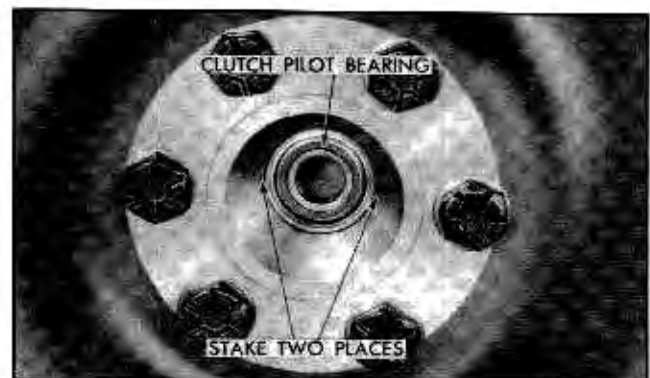

Fig. 6-35 Staking to Retain Clutch Pilot Bearing
3. If clutch pilot bearing is to be replaced, use cold chisel to remove staking in end of crankshaft which keeps bearing in place when transmission is removed (Fig. 6-35). Remove clutch pilot bearing from hole in crankshaft.
If bearing is a snug fit in crankshaft, use puller J-4383 and Slide Hammer J-2619-A or J-942 to remove bearing. When installing new bearing see that hole in crankshaft is thoroughly clean. Install new bearing with shielded side toward transmission. Start bearing into hole and tap into place by using Clutch Pilot Bearing Installer J-5736 against outer race. Stake slightly as shown in Fig. 6-35, to keep bearing in place in case transmission is removed in the future.